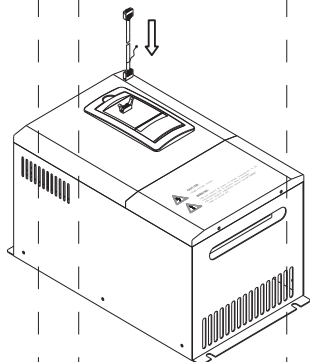

Fig. 3-14 Mounting Diagram for the operator panel and connecting wire of the inverter Model B
Step3. Insert the connection cable with the grounding side into the slot of the interface board . (as shown in Figure 3-14).